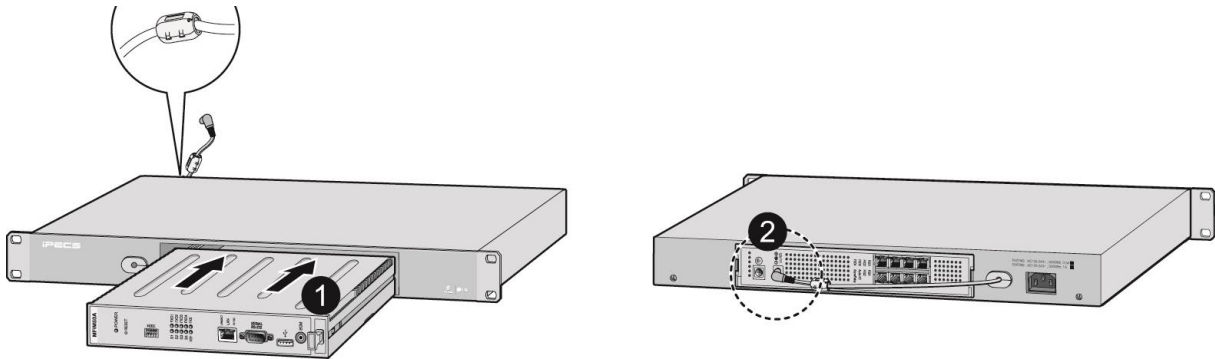

Figure 5.6-2 1U-RMB Gateway Installation
- 2) Install the gateway Module into the 1U-RMB and connect the adapter plug. Refer to Figure 5.6-2.